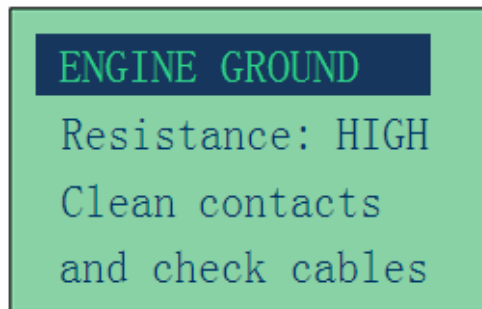

Figure 31
11. If the measured resistance reading has gone beyond the limits, then it will display the screen as follows (Fig. 31).